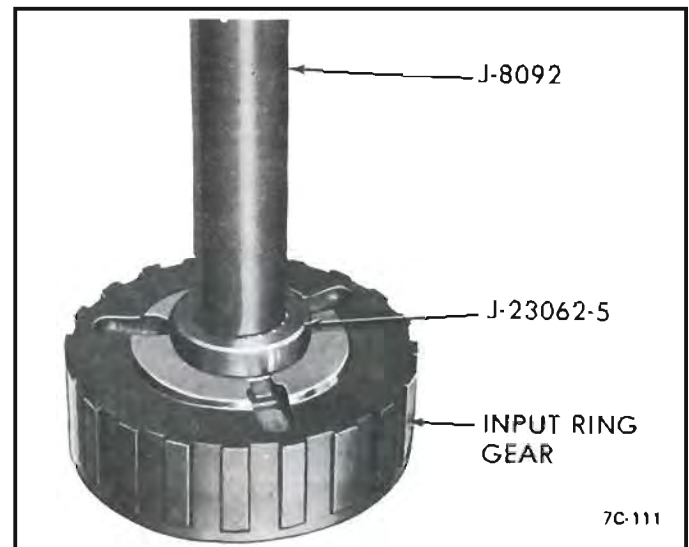

Figure 125 Reaction Carrier Bushing Removal
a. Thread Tool J-23062-5 on Drive Handle J-8092 and remove bushing from ring gear. *See Figure 125.*
b. Using Tool J-23062-5, press in new bushing .050" to .060" from inner surface of hub. *See Figure 125.*